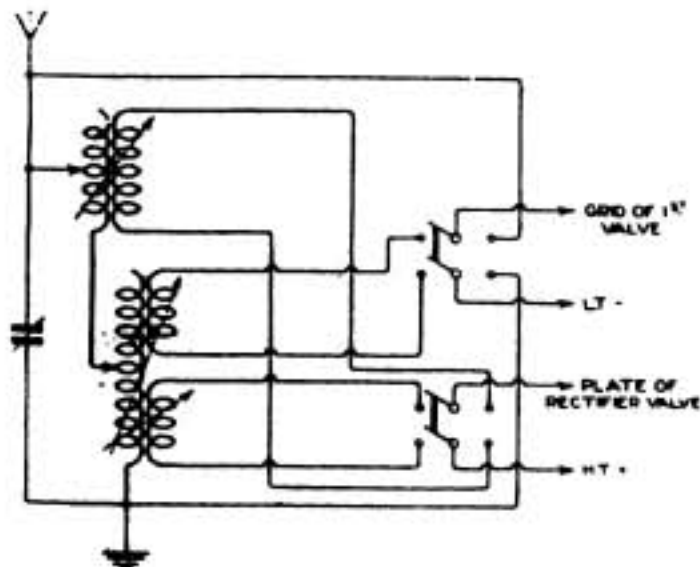

Fig. 3.
(1) Very fair, but see 4. (1) Paris, Poldhu and Nauen, also ship and coast stations on 600 metres; also Croydon telephony on 900 metres. (3) 400 to 4,000 metres. (4) Add a reaction coil between the positive H.T. and the anode of the valve, coupling this with the A.T.I. The coil may be 6" by 4" of No. 28. Put a 0.001 mfd. condenser across the H.R. winding of the telephone transformer.
"F.V.K." (Willingham) refers to Fig. 3, page 555, November 26th issue, and asks (1) If the telephone transformer may be left out if 2,000 ohm telephones are used. (2) Suitable windings for L.F. intervalve transformers. (3) Why only 6 volt H.T. is shown. (4) If grid condenser and leak are advisable.
(1) Yes. (2) Primary half an ounce and secondary 1½ ounces of No. 44 wire wound on a soft iron core ½" diameter and 2½" long. (3) This is only a diagrammatical representation of the position of the H.T. and not intended to represent the actual value. (4) This will probably improve rectification.
(1) A good circuit for this purpose is shown in Fig. 3, page 31, April 1st issue. (2) This may possibly, but not very probably, be due to inter-
"E.H.S." (Princetown) refers to Fig. 3, page 640, January 7th issue, and asks (1) Capacity of the blocking condenser, and if it is necessary to use this condenser if his telephone transformer has a condenser built into it. (2) Voltage of the H.T. battery. (3) If this set is as efficient as certain other combinations of valves. (4) If "R" valves should be used throughout.
(1) About 0.002 mfd. (2) About 80 volts if "R" valves are used. (3) The special merits of this set are that it gives uniformly good H.F. amplification on all wavelengths above about 800 metres. It is, however, unsuitable for short wavelengths. The combination one H.F., one rectifier and one L.F. is better on short waves, but is not capable of working over large ranges of wavelengths with any one H.F. transformer. (4) Yes.
**"A.T.N."** (Thornton Heath).—The circuit you refer to is a very poor type and we would advise you to modify it on the lines of Fig. 3, page 812, March 18th issue. Also, for a set of this type at least 80 volts is desirable with "R" type valves.
(1) The diagram given on page 3, April 1st issue, appears to meet with all your requirements with the exception of separate filament resistances, which you can add yourself. (2) The circuit should be connected to a four-pole two-way switch as shown in the diagram (Fig. 3). It will be seen that the
(1) Yes. (2) It is possible to use suitably designed choke coils, but they are not efficient for short wave sets. The circuit should be arranged as shown in Fig. 3, page 812, March 18th issue, with the choke coil in place of the resistance in the plate circuit of the first valve. (3) No. There is no advantage in a circuit of the above type. (4) No definite programme is yet arranged. It should be heard with two valves.
(1) The connections of this set are wrong. A correct diagram is shown in Fig. 3, page 12, March 18th issue. (2) Not as at present arranged, but when correctly connected and carefully adjusted it should do so. (3) With 1/16" between fixed plates, 36 fixed and 35 moving plates, will be required for 0.002 mfd. Owing to the small spacing and the number of plates required, the building up of this condenser will be found difficult. (4) This should be connected in parallel with the A.T.C.
(1) This is incorrect. There is no H.T. to the first valve. Connect up as Fig. 3, page 812, March 18th issue. (2) Yes. (3) This should be of fairly stout wire—No 18 or 20 copper or of lighting flex. (4) The down-lead should be taken from a point which allows it to drop at right angles to the horizontal part of the aerial, which is usually at the end nearest to the house.